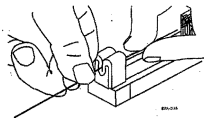

Figure 4
**3.5** Holding the fiber by its coating, push the first fiber down into the foam clamps (Figure 4). Slide the fiber into the CamSplice until it stops (to ease the fiber's entry into the CamSplice, slightly twist or "roll" the fiber during insertion). There should be no bending in the fiber at this point.